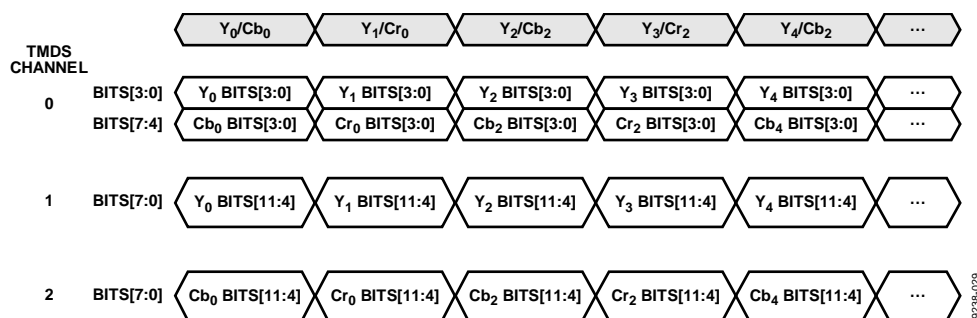
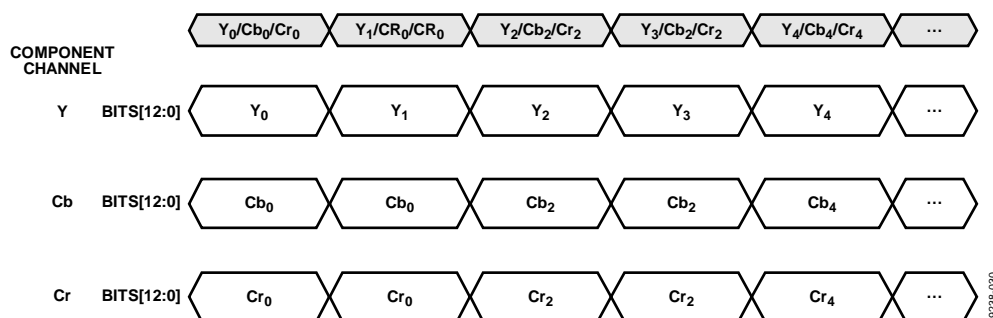

Figure 23. YCbCr 4:2:2 Video Data Encapsulated in HDMI Stream
Figure 24. Video Stream Output by HDMI Core for YCbCr 4:2:2 Input and UP_CONVERSION = 0
- If the HDMI section receives a stream with video encoded in a 4:2:2 format (refer to Figure 23), the HDMI section upconverts the video data into a 4:4:4 format, according to the UP_CONVERSION_MODE bit, and passes the upconverted video data to the DPP section (refer to Figure 24).